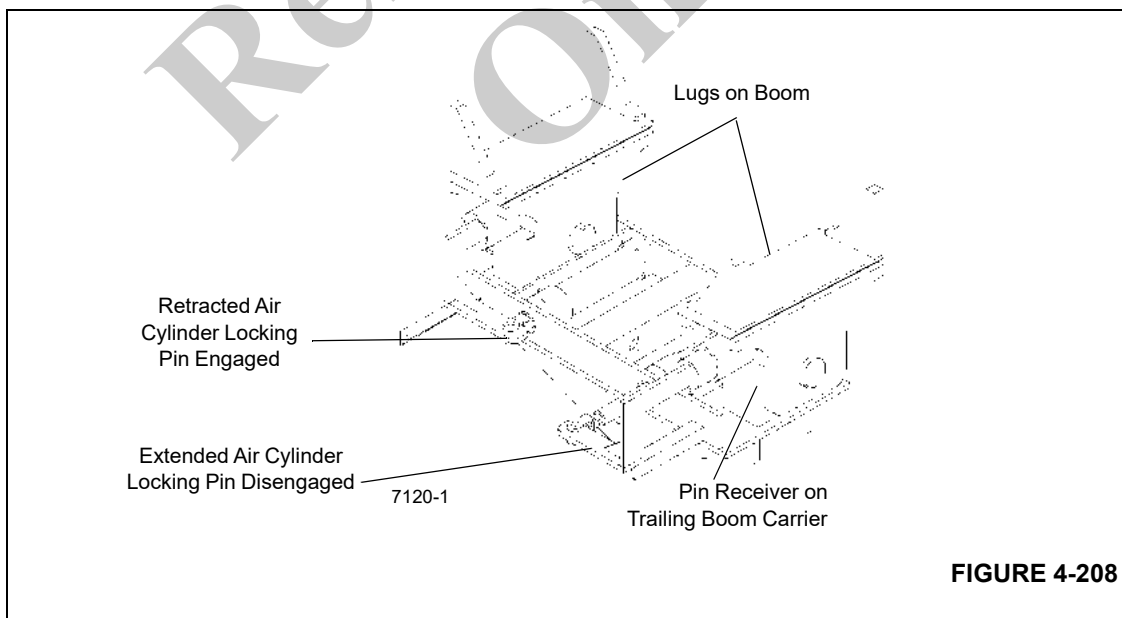

FIGURE 4-208
**NOTE:** When the air cylinders are extended, the locking pins are disengaged. When the air cylinders are retracted, the locking pins are engaged. Refer to (Figure 4-208).